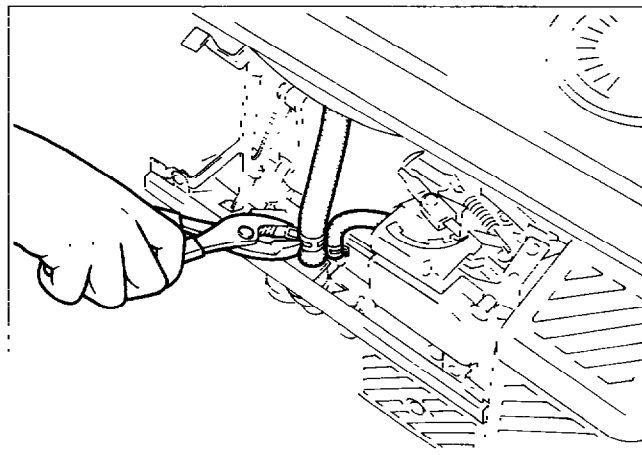

Fig. 10-10
| | | <p>(2) Disconnect fuel hose from the strainer. Loosen the hose clamp on top of the strainer and pull out the fuel hose from the strainer. (See Fig. 10-10.)</p> | | Pliers |